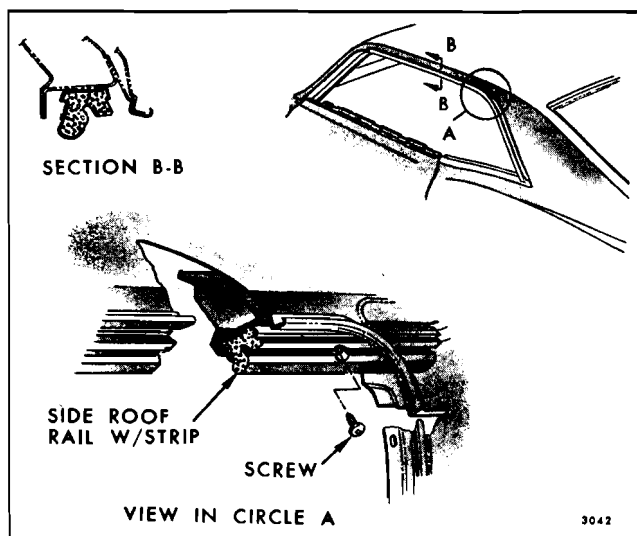

Fig. 6-13—Side Roof Rail Weatherstrip - "47-57" Styles
2. Lower rear quarter window and remove screw at rear of side roof rail weatherstrip (Fig. 6-13).